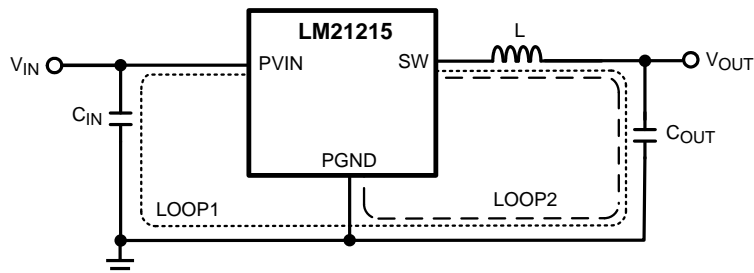

Figure 38. Schematic of LM21215 Highlighting Layout Sensitive Nodes
1. Minimize area of switched current loops. In a buck regulator there are two loops where currents are switched at high slew rates. The first loop starts from the input capacitor, to the regulator PVIN pin, to the regulator SW pin, to the inductor then out to the output capacitor and load. The second loop starts from the output capacitor ground, to the regulator GND pins, to the inductor and then out to the load (see Figure 38). To minimize both loop areas, the input capacitor should be placed as close as possible to the VIN pin. Grounding for both the input and output capacitor should be close. Ideally, a ground plane should be placed on the top layer that connects the PGND pins, the exposed pad (EP) of the device, and the ground connections of the input and output capacitors in a small area near pin 10 and 11 of the device. The inductor should be placed as close as possible to the SW pin and output capacitor.